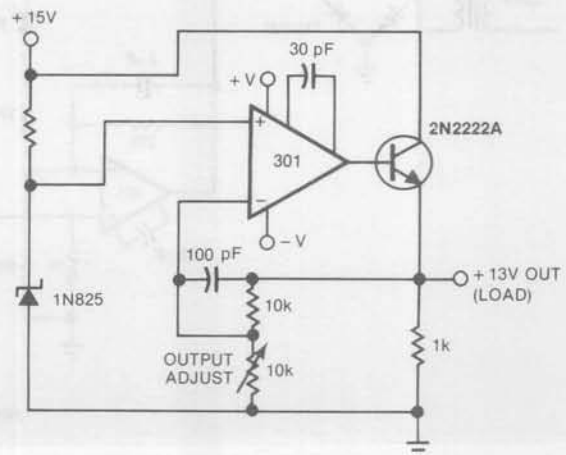

Fig 12—You could stop this voltage reference from oscillating by adding one capacitor to load the emitter, but there's a better fix. What is it?
17. Fig 12 shows another voltage-reference circuit. Its output, instead of being dc, oscillates at 10 MHz. Using a 10- μ F capacitor to load the emitter stops the oscillation, but this is a crude solution to the problem. What's the real fix?